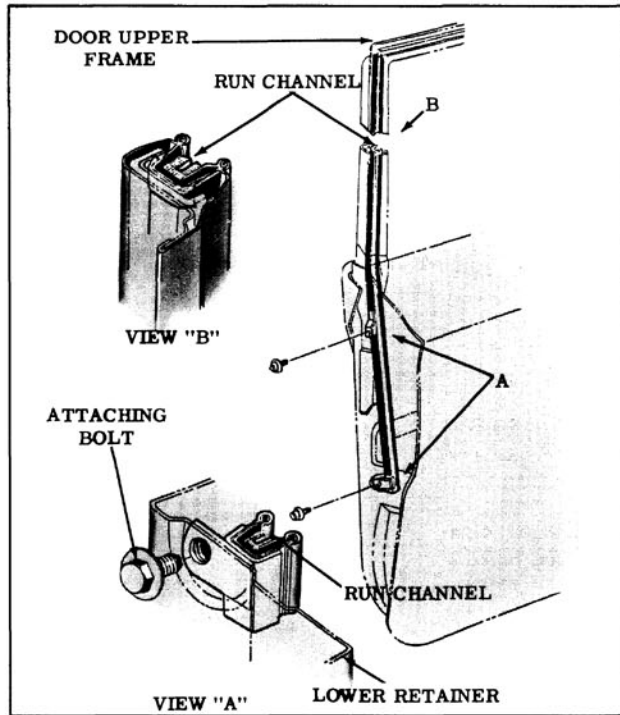

Fig. 16-68 Front Glass Run Channel
- Remove lower attaching bolts (two) from hinge pillar facing of door inner panel. (Fig. 16-68)
- Closed style rear doors do not provide for mechanical adjustments of the glass run channels. In the event of excessively loose door glass, however, the run channels can be moved closer to glass by adding shim(s) (washers - not a service part) between door lock and/or hinge pillar panel and run channel(s) at attaching bolt locations. Figs. 16-68 and 16-69 show glass run channel attaching bolt locations on 19 styles.